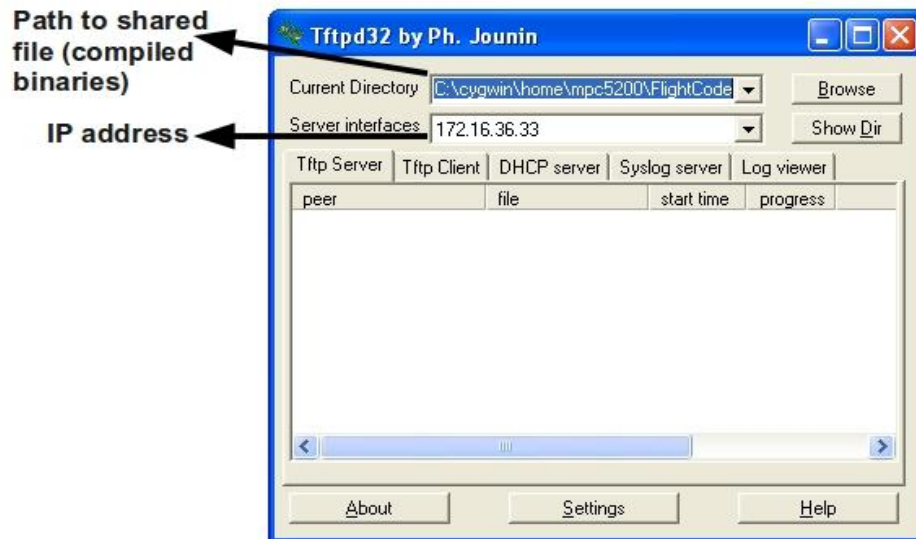

Figure 5. Tftpd32 window
*<pc\_ip\_address>* is the IP address of the computer where the binary file is located and the TFTP server is running. The ip address can be found out in the Tftpd32 window as shown in Figure 5. After executing the previous line the terminal should display something similar